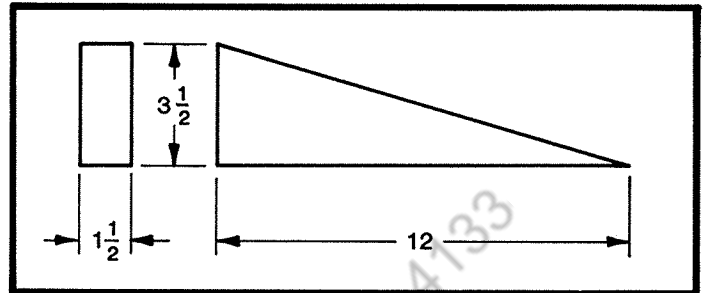

FIGURE 57
6. Position three wooden wedges, Figure 57, between the upper and lower knives. The wedges can be cut from a standard 2" x 4" lumber. Place these wedges on the 1" x 3" strips of wood previously installed. On some shears it may be necessary to use spacers under the wedges at the high end of the ram. DO NOT DRIVE THEM TIGHT.
Use the three wooden wedges as shown in Figure 57 to support the knife
47. Position the wooden wedges, Figure 57, between the knives next to every other holddown unit for seating the knives. These wedges must be snug between the knives. It is not necessary to drive them tight.